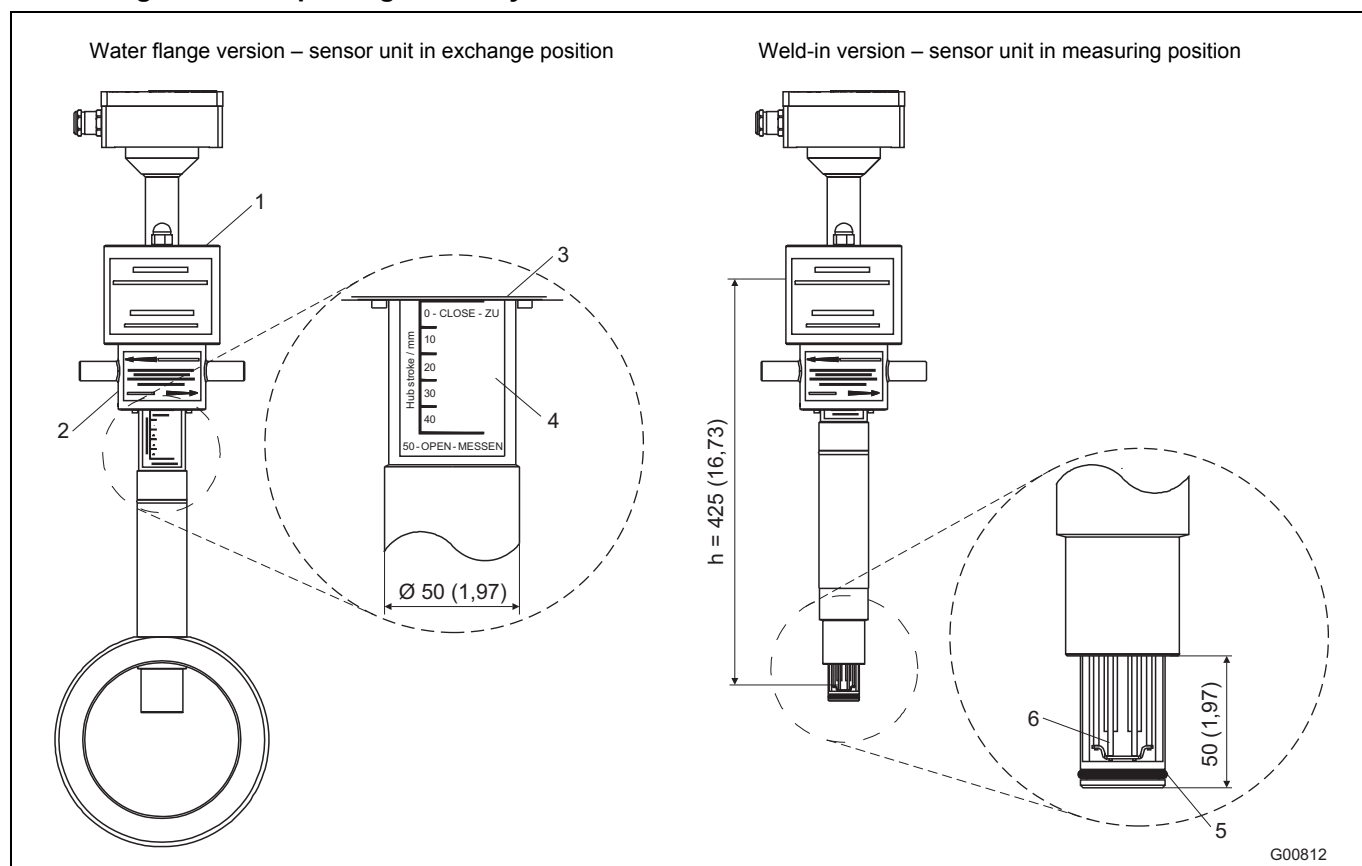
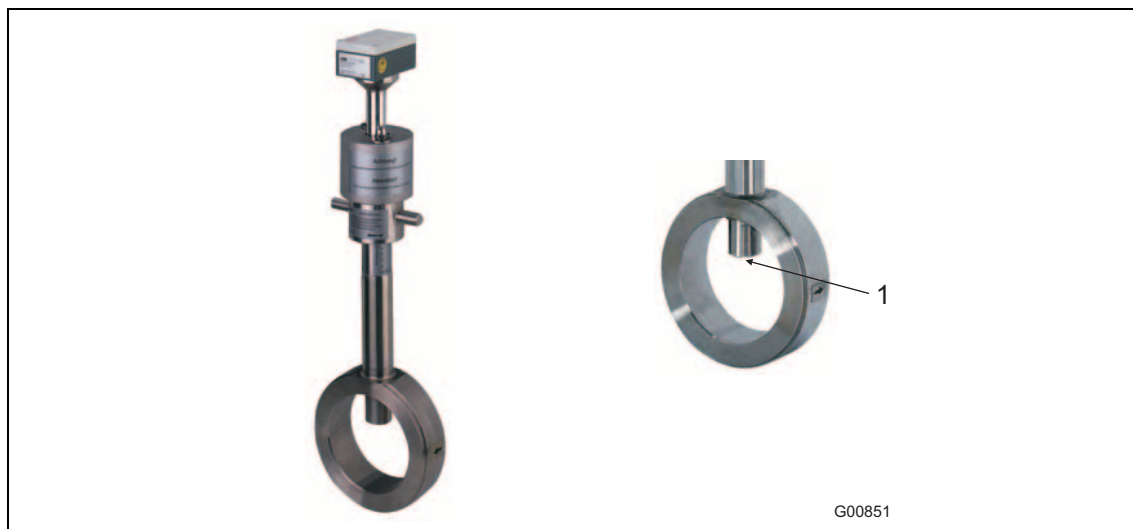
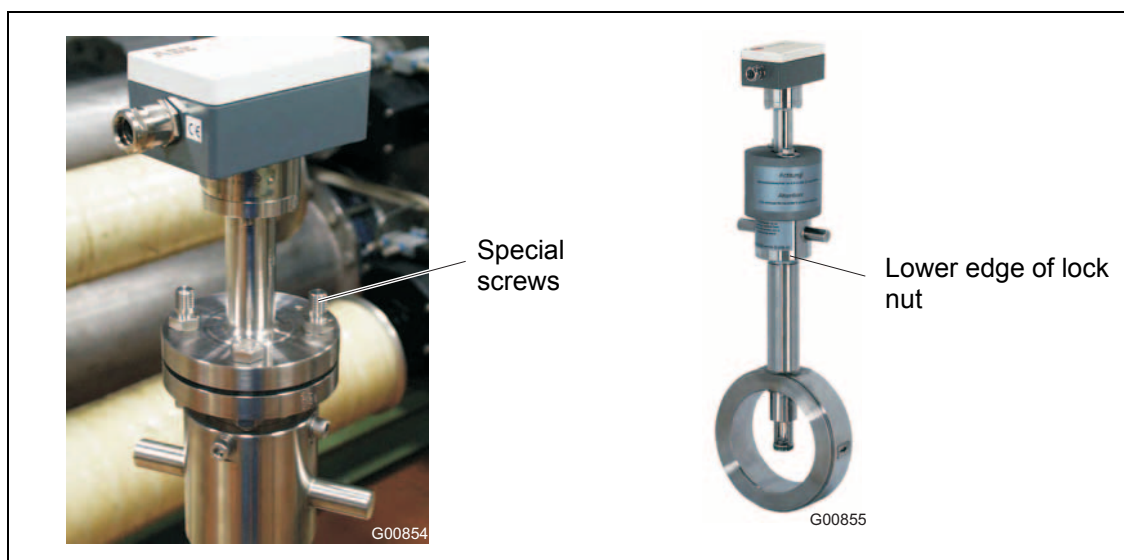

Fig. 9: Dimensions in mm (inch)
Fig. 11: Hot tap fitting in disassembly position
Fig. 14: Special screws for dust caps
The hot tap fitting is designed for pressure loads of max. 16 bar abs. To ensure interchangeability with standard pipe components (type 1), the wafer version (Fig. 11) has been developed for DN 50 and DN 80 DIN flanges with a pressure stage of PN 40. In the case of the DN 65 version with a pressure stage of PN 16, you should use connection flanges with 4 screw holes. Imperial versions 2 ... 8" designed for connection flange ASME B16.5 Cl.150 only. For suitable flowmeter sensor lengths, see Fig. 9.
Fig. 11 (left) shows the installed wafer version of the hot tap fitting in the disassembly position. The guide tube is in its upper end position and seals the Sensyflow opening (right).
- The hot tap fitting must be in the disassembly position (Fig. 11), whereby the Sensyflow opening is sealed.
- Insert the transmitter in the hot tap fitting and secure with screws (two M12 screws and two extended special screws, installed opposite each other (Fig. 14)).
- Install the dust caps and use nuts to attach them to the special screws (Fig. 14).
- Rotate the transmitter into the measuring position using the lock nut (Fig. 14). The lower edge of the lock nut indicates the position of the measuring element. When you reach the measuring position 50 – OPEN – MESSEN (lower limit stop of lock nut), the measuring elements are in the middle of the pipeline and it is only at this point that accurate values can be provided (see detail A in Fig. 9).
- Using the lock nut, rotate the hot tap fitting into the disassembly position. (Upper limit stop of lock nut, with lettering 0 - CLOSE - ZU must be visible; see detail A in Fig. 9).